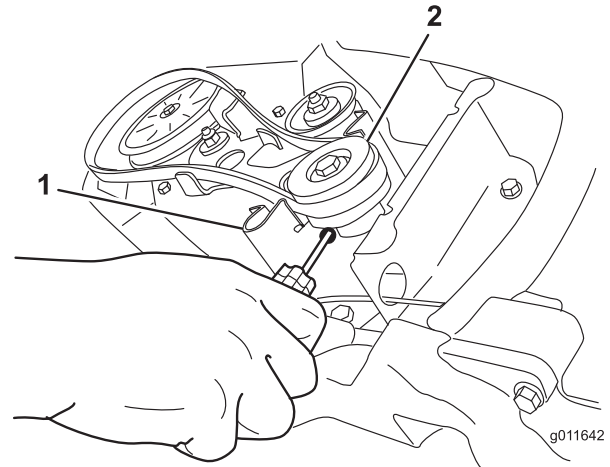

Figure 31
5. Insert a screwdriver into the hole in the belt guide as shown in Figure 31, and flex the belt guide toward the rotor pulley enough to pull the belt through the gap.